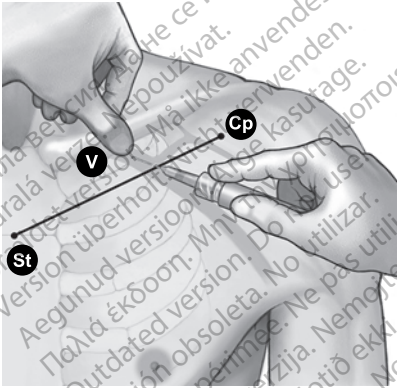

Figure 5. Location of thumb and needle entry
4. Press a thumb against the index finger and project 1–2 centimeters below the clavicle to shield the subclavius muscle from the needle (when hypertrophy of the pectoralis muscle is apparent, the thumb should project about 2 centimeters below the clavicle because the subclavius muscle should be hypertrophied as well) (Figure 5 Location of thumb and needle entry on page 15).